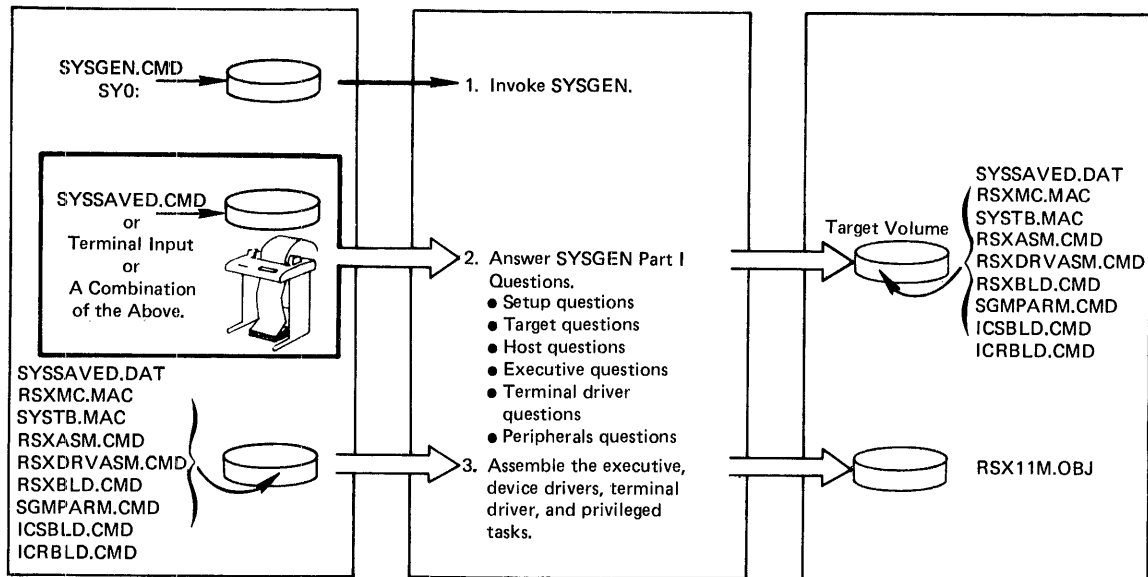

Figure 5-1 Processing Steps in SYSGEN Phase I
Figure 5-1 shows the processing steps that take place during SYSGEN Phase I.
Step 1 in Figure 5-1 is invoking SYSGEN, as described in Chapter 3.
Step 2 in Figure 5-1 is answering the questions in each of the sections in SYSGEN Phase I. For this process, you can answer all the questions explicitly at your terminal, you can use saved answers, or you can use a combination of saved answers and explicit answers.
Step 3 in Figure 5-1 is the assembly of the executive, device drivers, terminal driver, and privileged tasks.